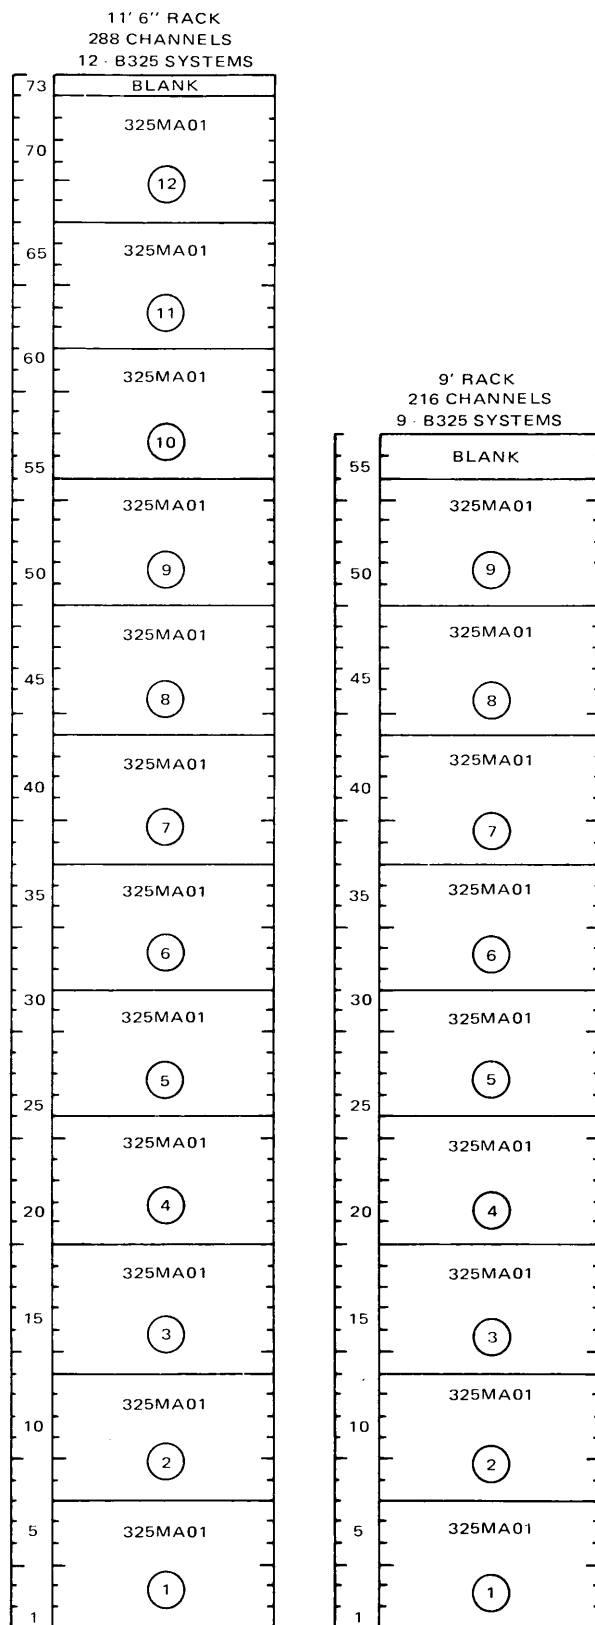

Fig. 9—Rack Profiles (11' 6" and 9' Racks), High-Density Loading
4.05 Fig. 9 shows high-density loadings of a 9-foot rack and an 11-foot 6-inch rack. Nine terminals (216 channels) can be mounted into a 9-foot rack. Twelve terminals (288 channels) can be mounted in an 11-foot 6-inch rack.